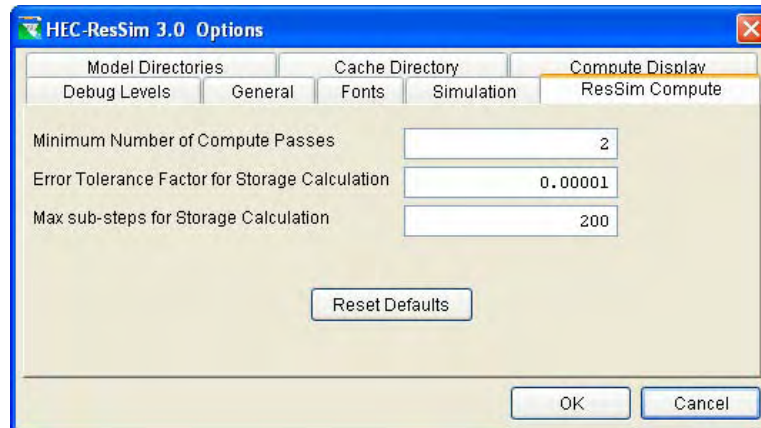

Figure 14.21 Simulation Module, Tools Menu: Options... ResSim Compute
- *ResSim Compute* option – as indicated in Figure 14.21, there are default compute options that you can revise if needed. These options include: Minimum Number of Compute Passes (default = 2); Error Tolerance Factor for Storage Calculation (default = 0.00001); and a Maximum number of sub-steps for Storage Calculation (default = 200). If you change from these values and want to go back to the defaults, then you can click the **Reset Defaults** button.